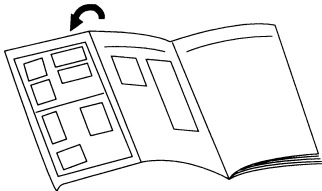

Fig. 5 Remote Control Unit
- 1 Press the CLOCK ADJUST button (Fig. 5 ㉔).
- 2 Use the TIMER SET (\boxplus / \boxminus) buttons (Fig. 5 ㉕) to adjust the clock to the current time.
- 3 Press the CLOCK ADJUST button (Fig. 5 ㉔) again.